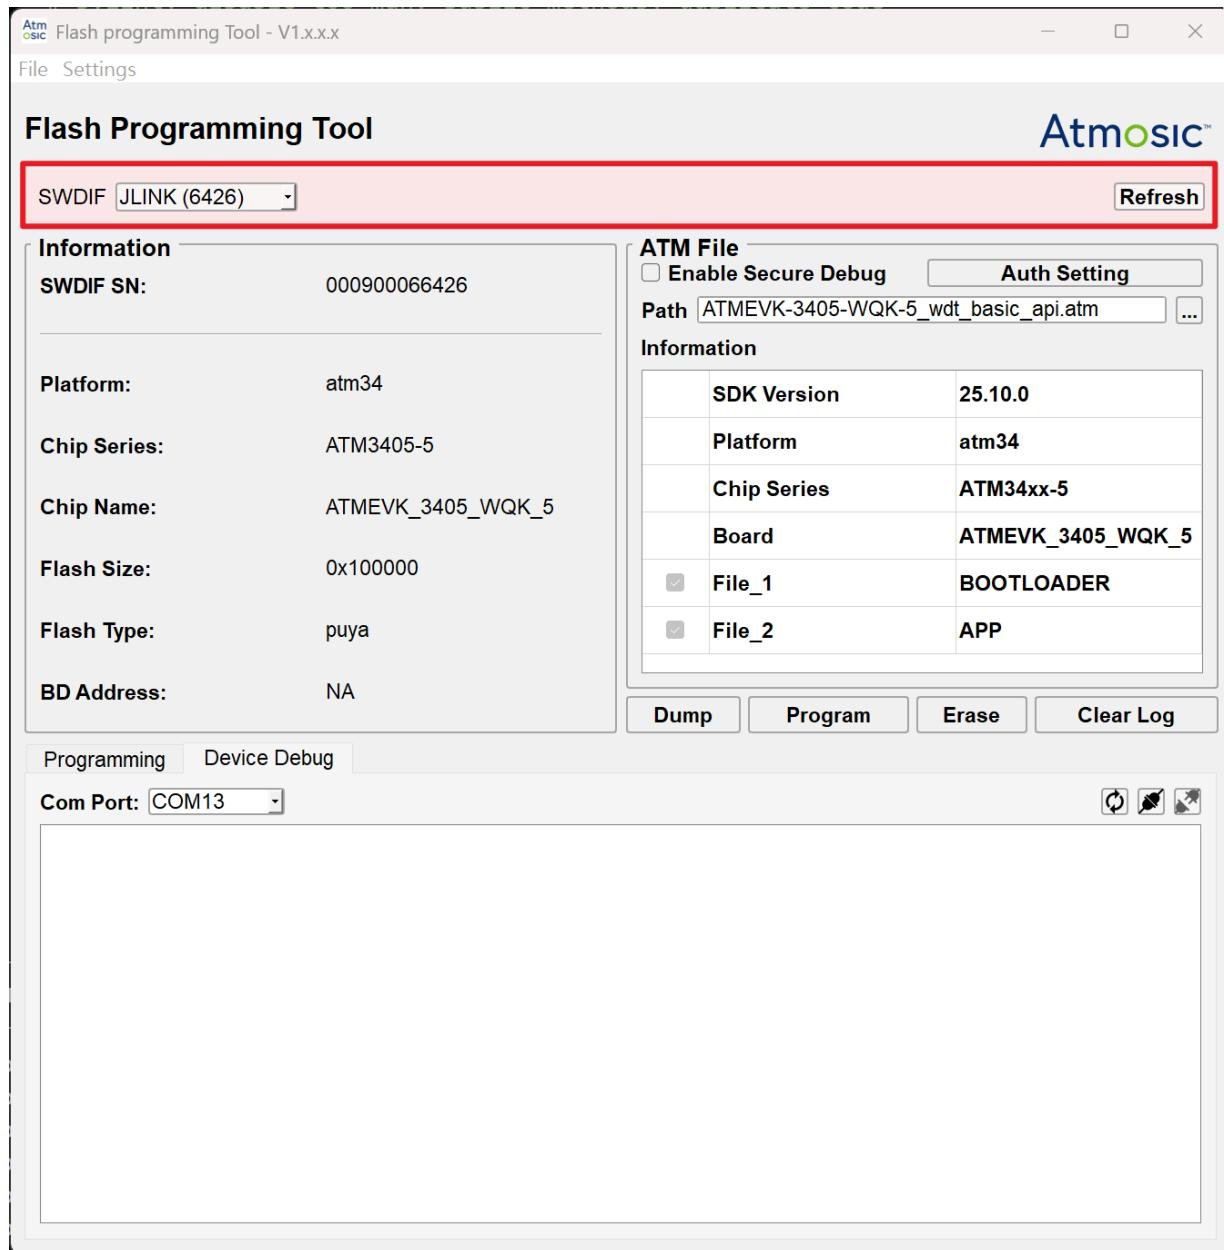

Figure 3-1 SWD Interface in Main GUI
- Figure 3-1 SWD Interface in Main GUI